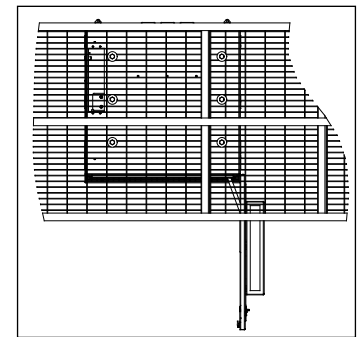

Figure 9 Installing on a Platform
9. To secure the CUBE to a steel grate platform, install 1/2" corrosion-resistant Grade 5 steel hardware through the cabinet and platform grate. Ensure that the bolts are long enough to extend past the nut on the bottom side of the platform grate. For all mounting applications, each bolted joint should have a minimum Ø1 inch fender washer on the inside of the cabinet (and underside of the platform grate for platform mounting) with a lock washer. The washer on the underside of the platform must be large enough to cover both adjacent bearing bars as shown in Figure 9.